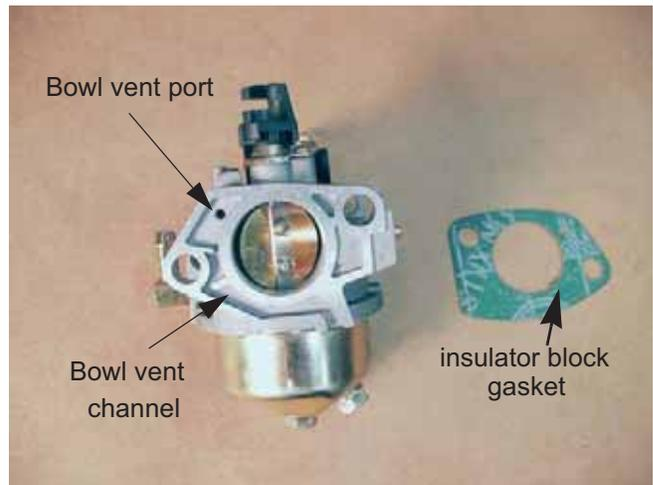

Figure 4.25
4. Check the vent passages. See Figure 4.25.